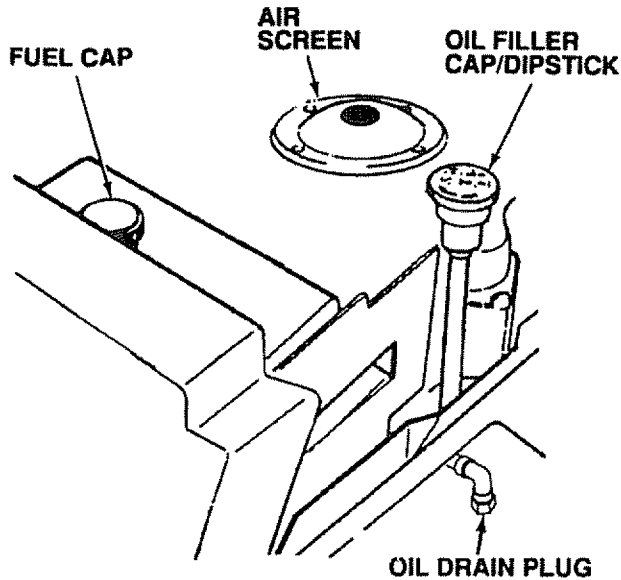

FIGURE 15
- b. Add oil through the oil filler cap/dipstick (Fig. 15).
Several minutes after stopping engine, check engine oil level with tractor on level ground. Wipe dipstick (Fig. 15) clean, screw it down tight for a few seconds, remove and read oil level. If necessary, add oil until "FULL" mark is reached. (See chart above). **NOTE:** DO NOT OVERFILL.